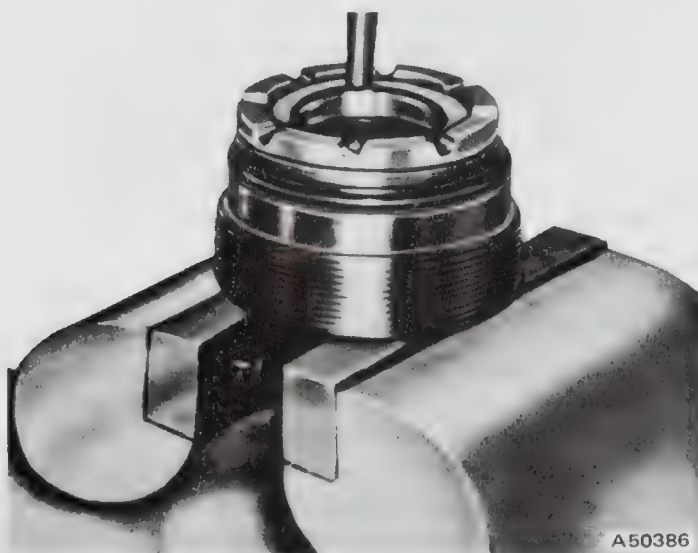

Fig. 2K-94 Adjuster Plug Bearing Retainer Installation
(23) Install Seal Protector J-25509 over rack threads (fig. 2K-98).